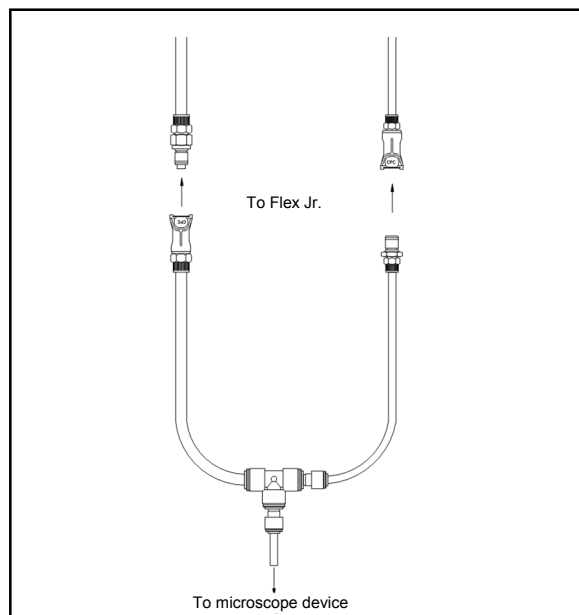

Figure 4. Microscope device to Flex Jr.™ tubing adapter
8. Connect the tubing to the microscope device (see Fig. 4, p.3):
Use the tubing adapter as shown in Figure 4 to connect the Flex Jr.™ to the microscope device. Connect the $\frac{1}{4}$ " (6.4 mm) blue tubing provided with the device to the front hose barb on the device. Then connect the open end to the tubing adapter. Next, connect the $\frac{3}{8}$ " (9.5 mm) and the $\frac{1}{4}$ " (6.4 mm) quick disconnected tubing, already attached to the adapter, to the respective **FLEX IN** and **FLEX OUT** tubing from the rear of the Flex Jr.™.